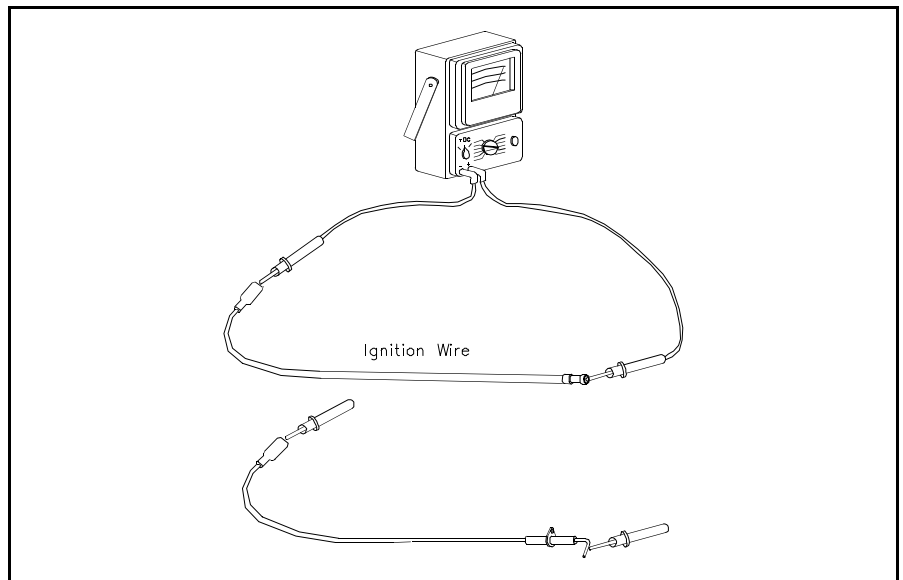

Figure 4.35 Ignition Wire Continuity Test
19. Check continuity of the Ignition wire as shown in Figure 4.35. The meter should indicate a short circuit as shown. If not, the Ignition wire must be replaced.